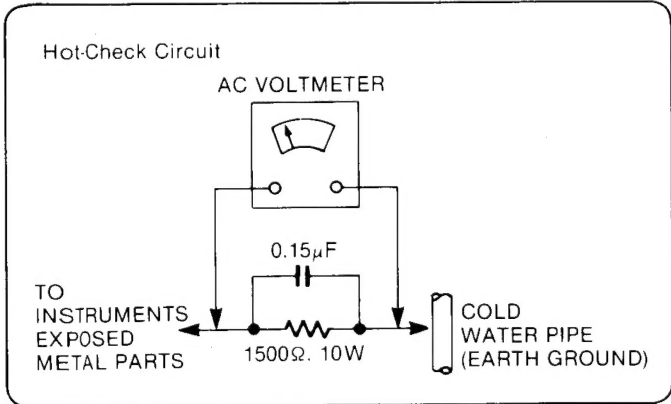

Figure 1
LEAKAGE CURRENT HOT CHECK (See figure 1.)
- 2. Connect a 1.5kΩ, 10 watts resistor, in parallel with a 0.15μF capacitor, between each exposed metallic part on the set and a good earth ground such as a water pipe, as shown in figure 1.